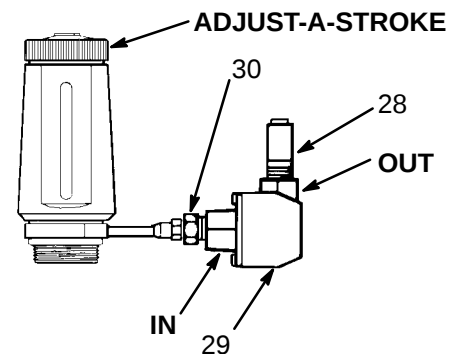

Fig 3
2. Install the nipple, quick exhaust valve and tube fitting in the Counter or air motor. See Fig 3.